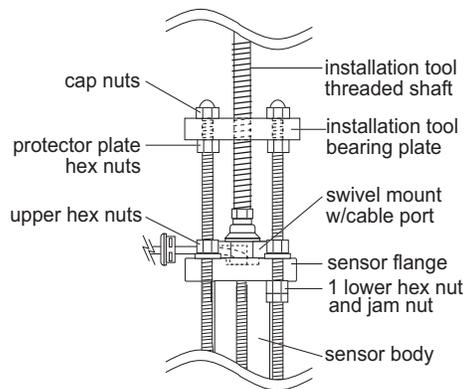

Fig. 15
- E. Wearing safety face protection, turn the installation tool shaft **counterclockwise** to withdraw sensor until the sensor flange contacts the upper hex nuts. (Fig. 15)